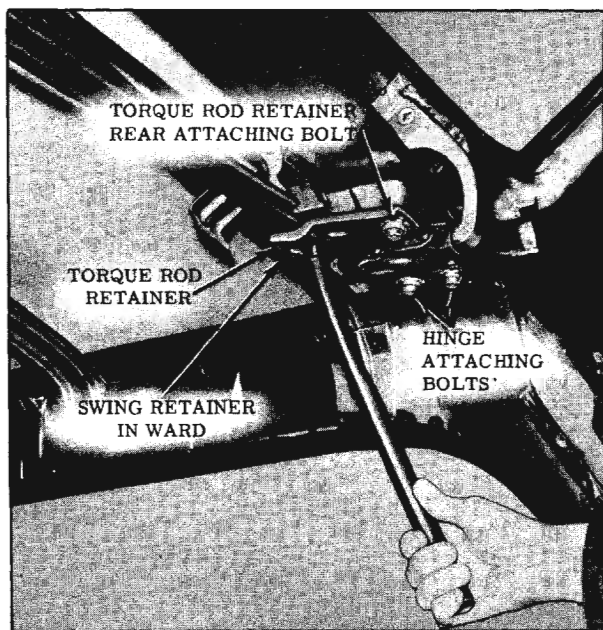

Fig. 16-284 Back Door Hinge and Torque Rod
- c. Using a suitable length of pipe over end of torque rod, release tension of torque rod from retainer. While tension of torque rod is released from retainer, loosen retainer attaching bolts, (Fig. 16-284); then, release torque rod. Loosen the two remaining hinge attaching bolts. Perform this operation at both right and left hinges.
4. Using a suitable length of pipe over end of torque rod, release tension of torque rod from retainer. While tension of torque rod is released from retainer, loosen (no more than 2 turns) retainer rear attaching bolt; then, swing front end of retainer towards inside of body and release torque rod. (Fig. 16-284)
2 turns) retainer rear attaching bolt; then, swing front end of retainer towards inside of body and release torque rod. (Fig. 16-284) Perform this operation at both right and left torque rod retainers.